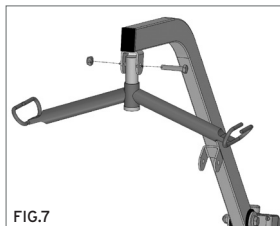

FIG.7
6. Position and fix the slingbar with the provided screw on the corresponding holed bracket (Fig.7)